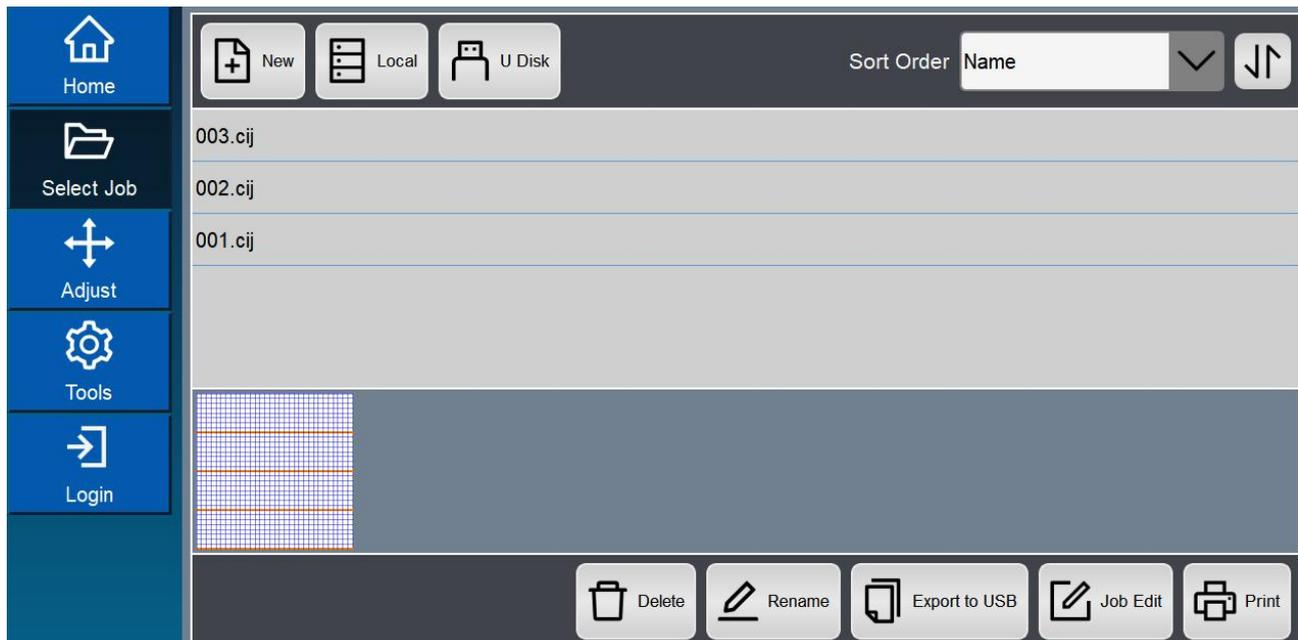

Figure 2-2 Selection interface
①Click the button **Select Job** on the main interface and select the name from the file displayed in the middle of the screen.
②After selecting the required file, a content preview of the job will be displayed on the lower side of the screen. (As shown in Figure 2-2)
③Click the button **Print**, the system returns to the main interface and waits for operator instructions.